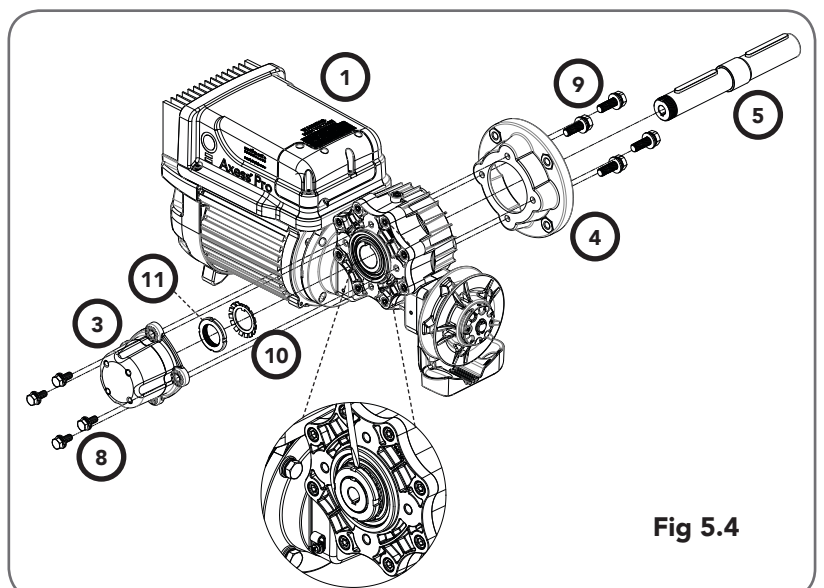

Fig 5.4
The opener can be installed on either the right- or left hand side of the shutter (when viewed from inside the building). The timing assembly, mounting flange and drive shaft needs to be assembled according to the installation side. Assembling the opener for RIGHT- HAND installation is listed below and shown in **Fig 5.4**. For LEFT-HAND side installation, assemble the parts from the other end.
- Assemble the mounting flange (4) with four M8x38 screws (9) to the drive unit (1).
- Insert the output drive shaft (5) into the gearbox, thread side first.
- Secure the output drive shaft with the lock washer (11) and lock nut (12).
- Finger tighten the lock nut* (12) then lock it by securing the position of the lock nut by bending one tooth of the lock washer (11) into the slot on the lock nut. (**Fig 5.4 insert**)
- Line up the shaft of the timing assembly (3) with the keyway on the back of the drive shaft. Push and secure the timing assembly with four M8x20 bolts (8) ensuring the cable gland is facing the motor.